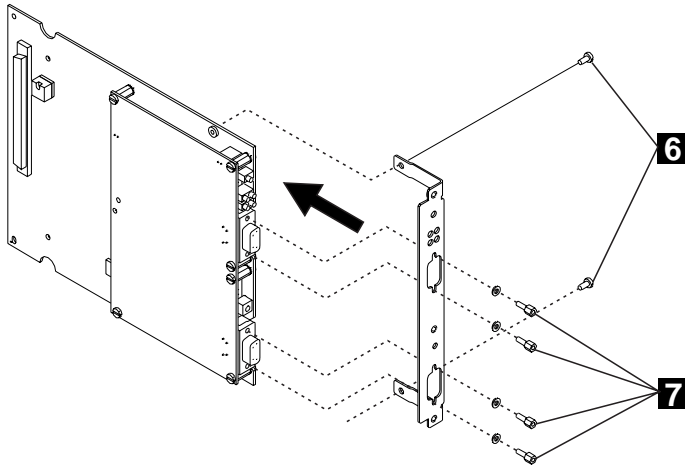

Figure 6. Attaching the Faceplate Bracket
- **7** Attach the faceplate bracket to the motherboard using the two screws (**6** in Figure 6 on page 21) from the old dummy bracket.